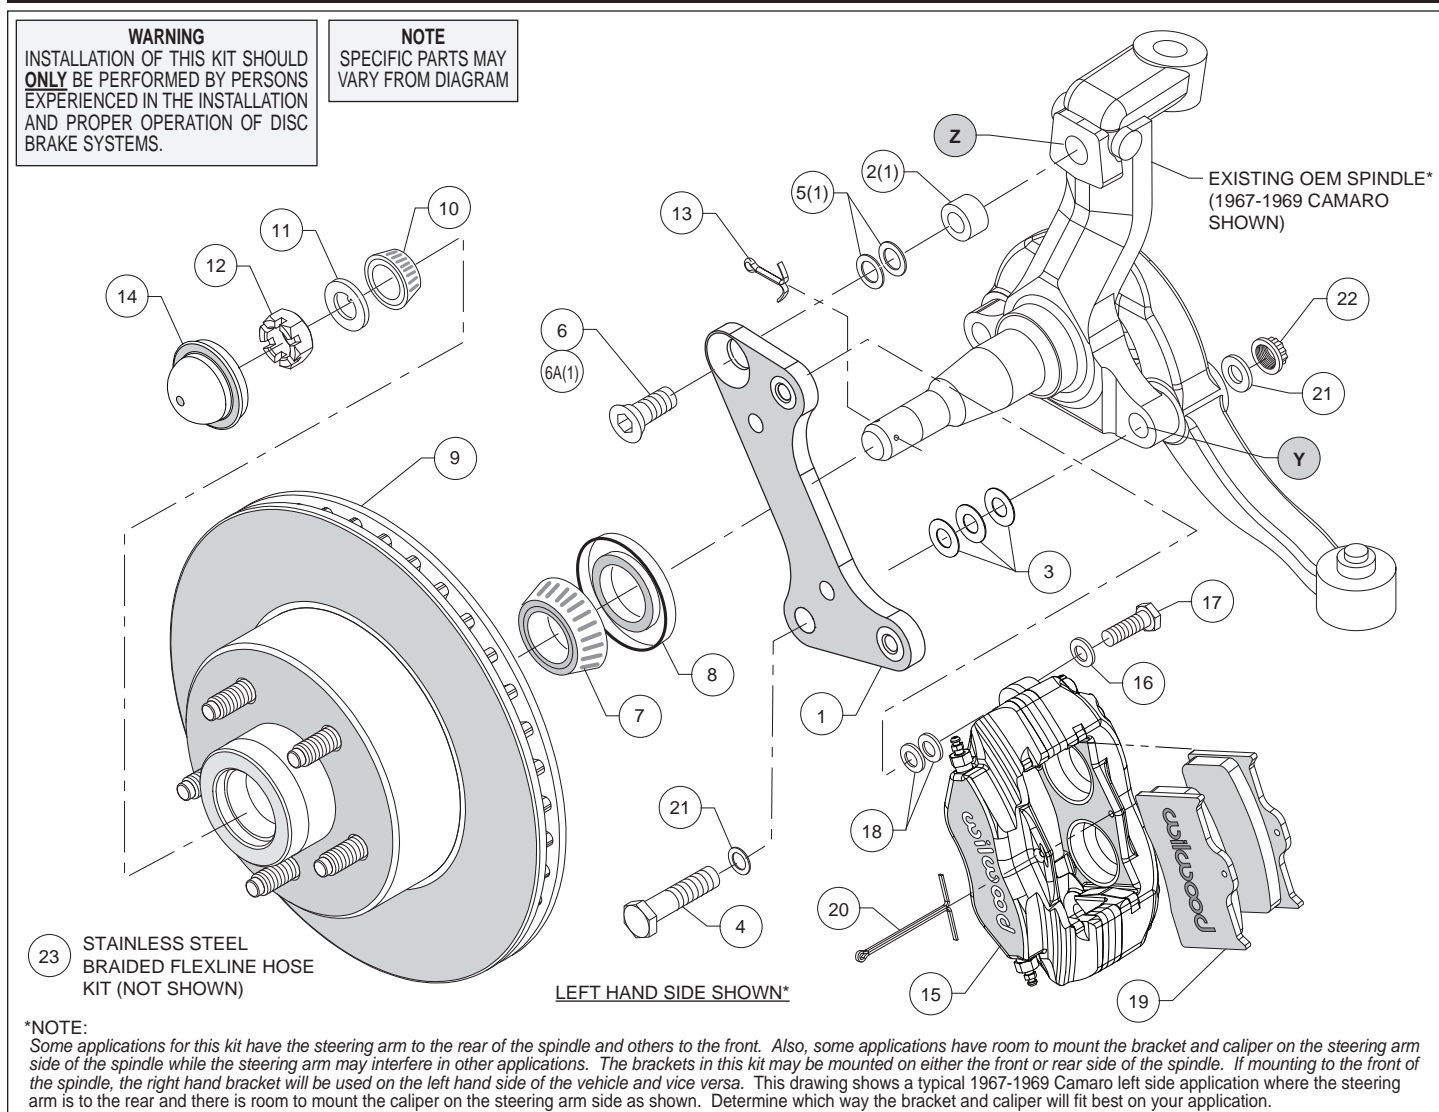
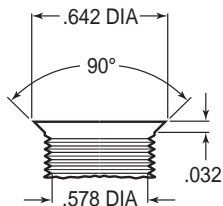
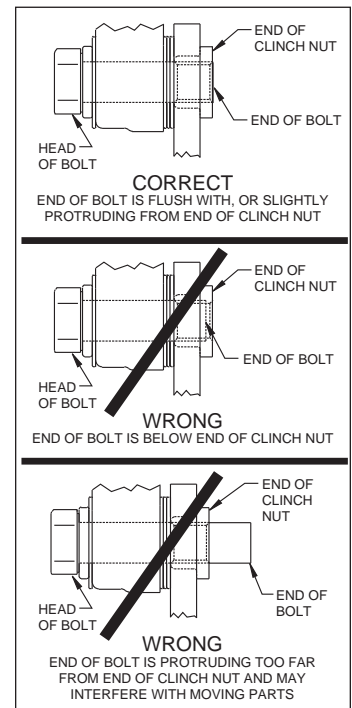

Figure 1. Typical Installation Configuration
Figure 3. Drill and Tap Detail
Figure 4. Clinch Nut Engagement Diagram
Assembly Instructions (numbers in parenthesis refer to the parts list and Figure 1 on the preceding page): **CAUTION:** All mounting bolts must fully engage clinch nuts. Be sure to check that all bolts are either flush or protruding through flanged side of clinch nut after shimming, Figure 4.
•**NOTE:** Some applications for this kit have the steering arm to the rear of the spindle and others to the front. Also, some applications have room to mount the bracket and caliper on the steering arm side of the spindle while the steering arm may interfere in other applications. The brackets in this kit may be mounted on either the front or rear side of the spindle. If mounting to the front of the spindle, the right hand bracket will be used on the left hand side of the vehicle and vice versa. Figure 1 shows a typical 1967-1969 Camaro left side application where the steering arm is to the rear and there is room to mount the caliper on the steering arm side as shown. Determine which way the bracket and caliper will fit best on your application.
•**NOTE:** Some spindles in this year range may require the following modifications (reference Figure 1 and Figure 3): Top anchor pin hole (Z) must be drilled and tapped to the dimensions as outlined in Figure 3. The lower bolt hole (Y) in the spindle used to mount the new caliper bracket, and the mating steering arm hole, must be enlarged to .50" by drilling. It is recommended these modifications be performed by a qualified machinist.
•Pack the large inner bearing cone (7) with high temperature disc brake bearing grease (available from your local auto parts store) and install into the backside of the hub (9), Photo 1.
•Install the grease seal (8) by pressing into the backside of the hub (9), flush with the end of the hub.
•**Disc Brake Spindle Application Only:** Follow the instructions below, but instead use bolt (6A), spacer (2), and two .050" thick washers (5) in the upper bolt hole location, Figure 1.
•Orient the flat bracket (1) as shown in Figure 1 and Photo 2, and install using bottom bolt (4), washers (21), and nut (22), Figure 1. Initially place three .032" thick shims (3) between the bracket and spindle. Install the upper bolt (6 or 6A), Photo 3. Temporarily tighten bolts. **NOTE:** The bracket must fit squarely against the mounting surfaces on the spindle. Inspect for interference from casting irregularities, machining ridges, burrs, etc. Ensure that the flanged heads of the clinch nuts in the bracket are facing outboard. Temporarily install the hub/rotor. Check that the bracket is aligned parallel to the rotor, Photo 4. If not, adjust by adding or subtracting shims (3) on the lower bolt between the bracket and spindle, Figure 1. Once the bracket alignment is correct, remove the upper bolt (6 or 6A), apply red *Loctite*® 271 to the bolt threads, and torque to 120 ft-lb. Torque the lower lock nut to 65 ft-lb.
- Press the dust cap (14) into hub (9).
- NOTE:** Please reference the caution statement at the beginning of the assembly instructions. Mount the caliper (15) onto the caliper bracket (1) using bolts (17) and washers (16), as shown in Figure 1. Initially place two .035" thick shims (18) on each bolt between the caliper and the bracket, Photo 6. Temporarily tighten the mounting bolts and view the rotor (9) through the top opening of the caliper. The rotor should be centered in the caliper, Photo 7. If not, adjust by adding or subtracting shims (18) between the bracket and the caliper. Always use the same amount of shims on each of the two mounting bolts. **NOTE:** The end of the bolt must be flush with or slightly protruding from the head of the clinch nut in the bracket. If necessary, place spare shims between the washer and the caliper mounting ear to achieve the proper clinch nut engagement, as shown in Figure 4. Once the caliper alignment is correct, remove the bolts one at a time, apply red *Loctite*® 271 to bolt threads, and torque to 40 ft-lb.